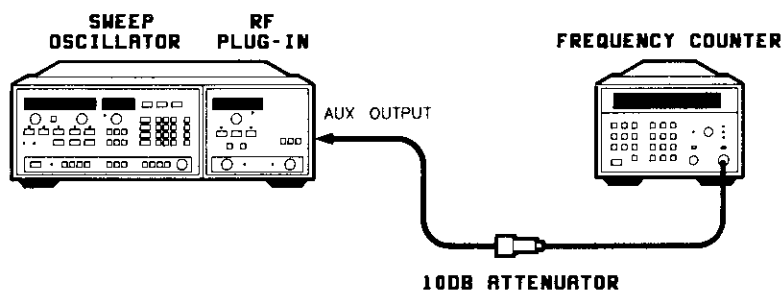

Figure 5-8. Preliminary Frequency Accuracy Test Setup
1. Connect the equipment as shown in Figure 5-8 with the frequency counter connected to the HP 83595A rear panel AUX OUTPUT connector through the 10 dB attenuator. Allow the equipment to warm up for 1 hour.